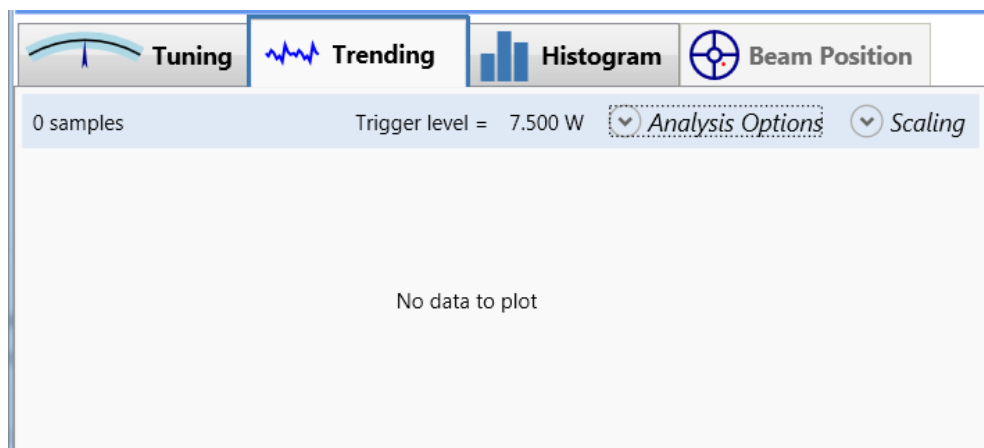

Figure 8-7. Trending Tab
6. **[Trending tab]** Click the Trending tab in the lower half of the window to display the Graphics viewing panel, shown in Figure 8-7.